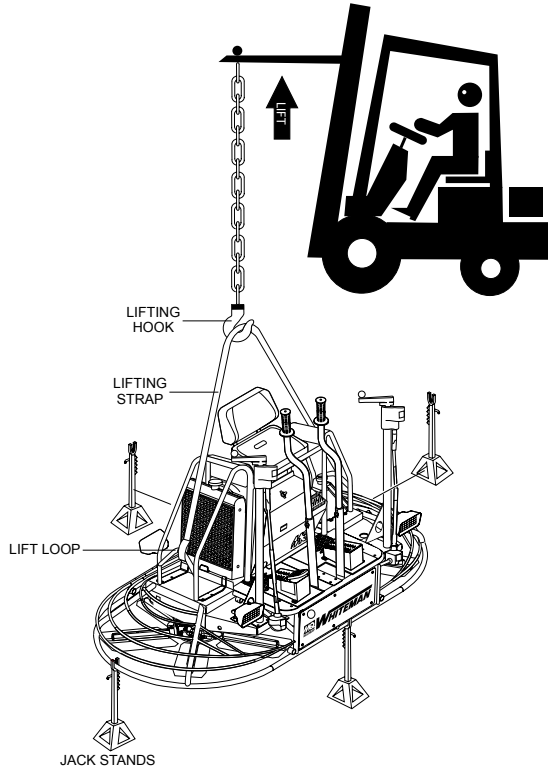

Figure 3. Lifting the Trowel
1. Attach one end of a lifting strap or chain around the lift loops on each side of the trowel. Attach the other end of the lifting strap or chain to the lifting device (Figure 3).